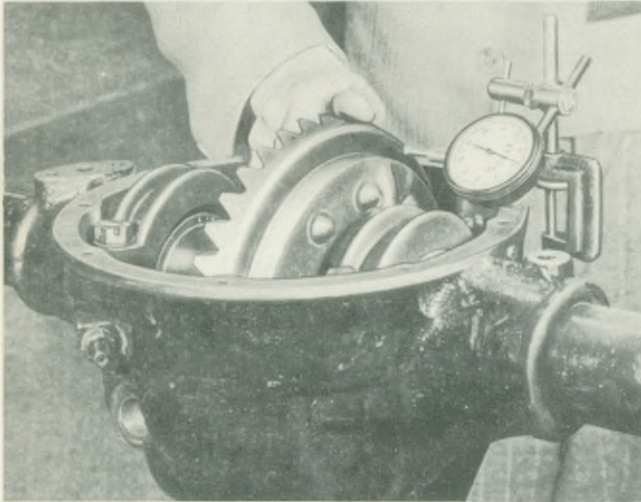

Fig. 13. Checking crown wheel for run-out prior to dismantling
6. Clean out differential gear and bearings with paraffin, petrol or other solvent, and check crown wheel for run out with a dial gauge as shown in Fig. 13. Run out in excess of .003" indicates either loose or defective differential bearings, or possibly a distorted differential housing, and should be dealt with accordingly.